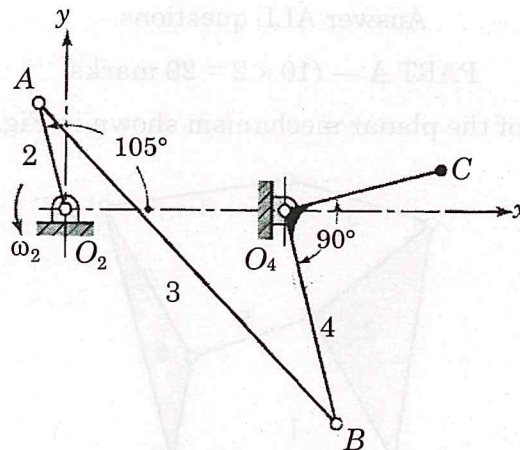

Fig. 2
12. (a) The four-bar linkage in the posture shown in Fig.2 is driven by crank 2 at  $\omega_2 = 48 \text{ rad/s ccw}$ . Find the angular velocity of link 3 and the velocity of point C on link 4. The dimensions of different links are as follows:  $AO_2 = 100 \text{ mm}$ ,  $BA = 400 \text{ mm}$ ,  $O_4O_2 = 200 \text{ mm}$ ,  $BO_4 = 200 \text{ mm}$  and  $CO_4 = 150 \text{ mm}$ .